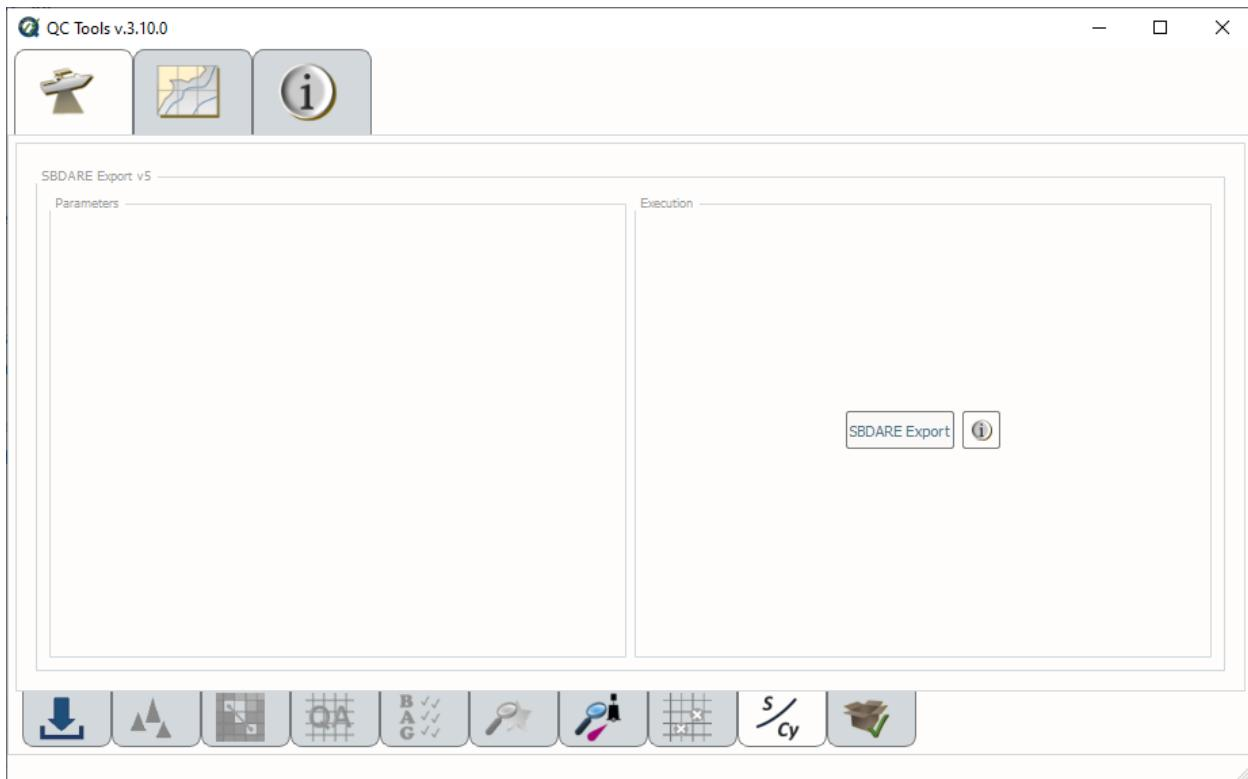

Fig. 2.63: SBDARE exports interface.
- Click **SBDARE export v5** (Fig. 2.63).